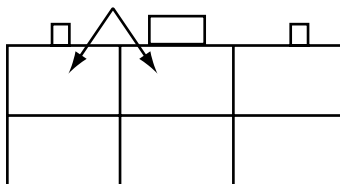
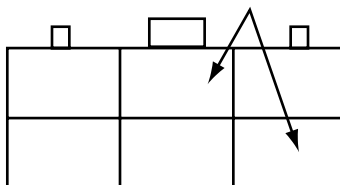
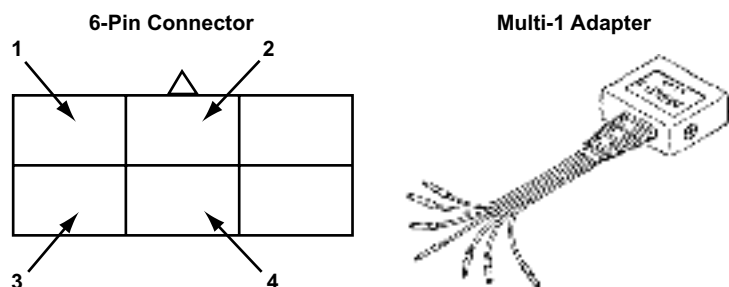

Figure 6-3 Jumper Engine connector. Pins as shown for flash codes (Flash Codes)
Figure 6-4 Jumper ABS 6-pin connector pins shown for flash codes.
Figure 6-7 1990-1992 6-pin Transmission connector and MULTI-1 adapter
Jump the appropriate connector pins to manually access Daihatsu engine and antilock brake system codes. Refer to Figure 6-4 and Table 6-1 on page 53 to read the codes.
- Jump pins shown in Figure 6-3 and turn the ignition on. Engine and ABS codes flash the same. See Figure 6-7 and Table 6-1 for manual code reading information.
- Jump pins as shown in Figure 6-4 and turn the ignition on. ABS codes and Engine codes flash the same. See Figure 6-7 and Table 6-1 on page 53 for manual code reading information.
- Connect the MULTI-1 adapter with black terminal converters to 6-pin connector as shown in Figure 6-7. The connector is located near the bulkhead in the engine compartment.